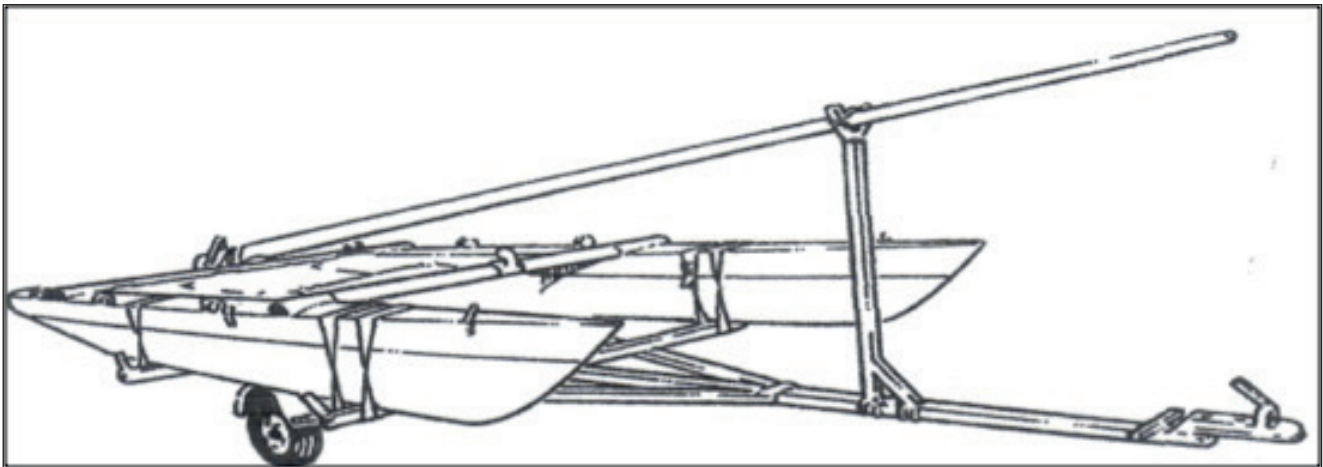

Fig 1 - Trailer (towing assembled)
- Lay out all parts of the boat and identify with the contents list (Fig 1)
- Lay out all parts of boat and identify with contents list (Fig 1)